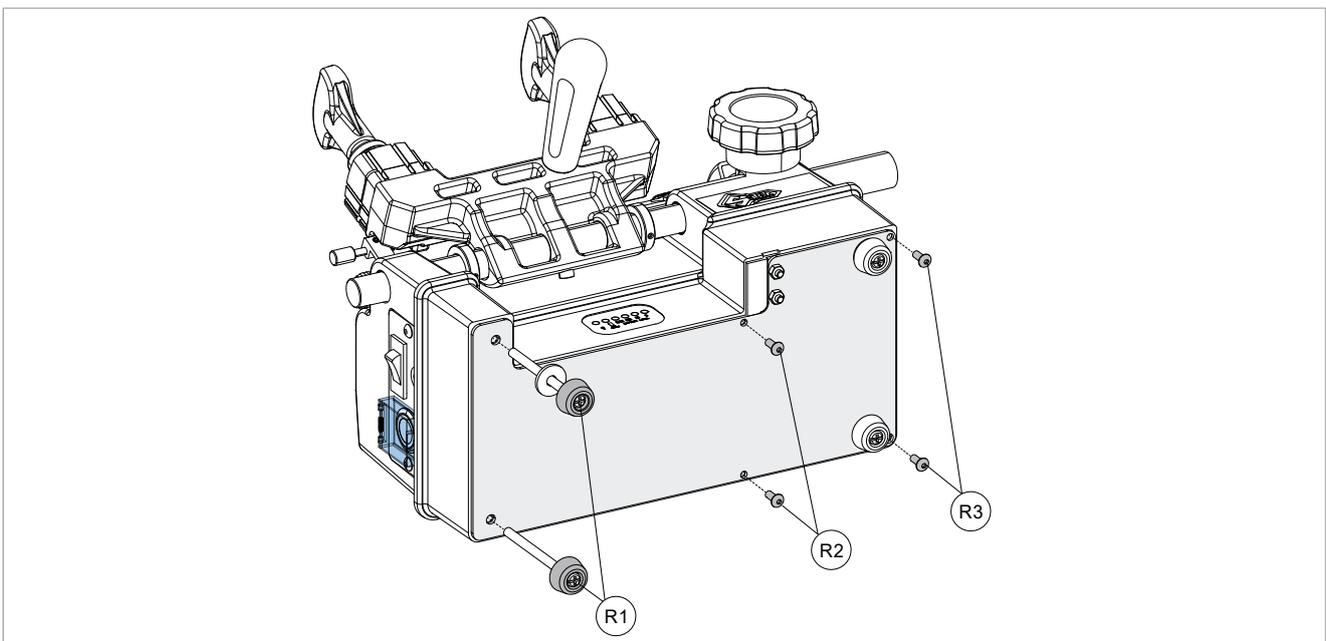

Fig. 38
**⚠ ATTENTION:** turn off the machine with motor switch (T), turn off main power switch (N), close the switch protection cover (N1) and check that it is NOT connected to the battery.
- 1) Carefully turn the key-cutting machine onto its back as shown in picture (Fig. 38).